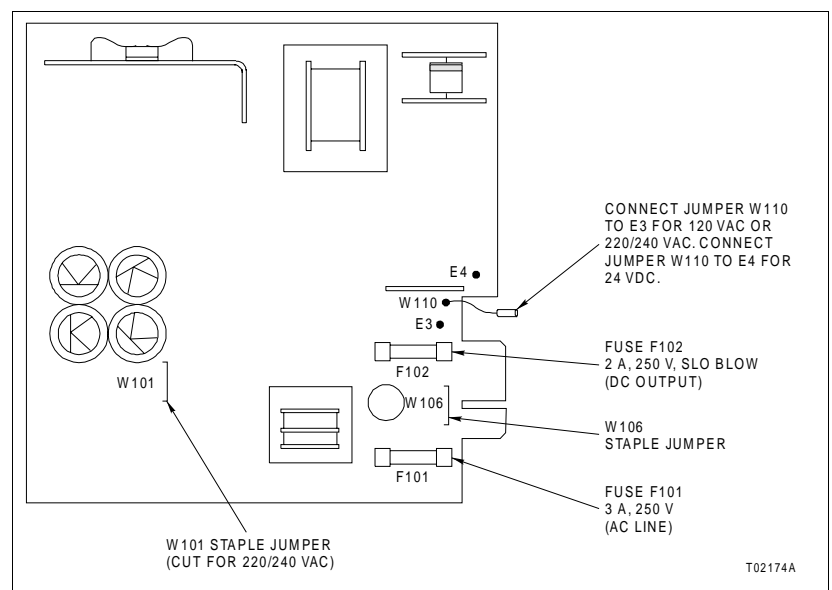
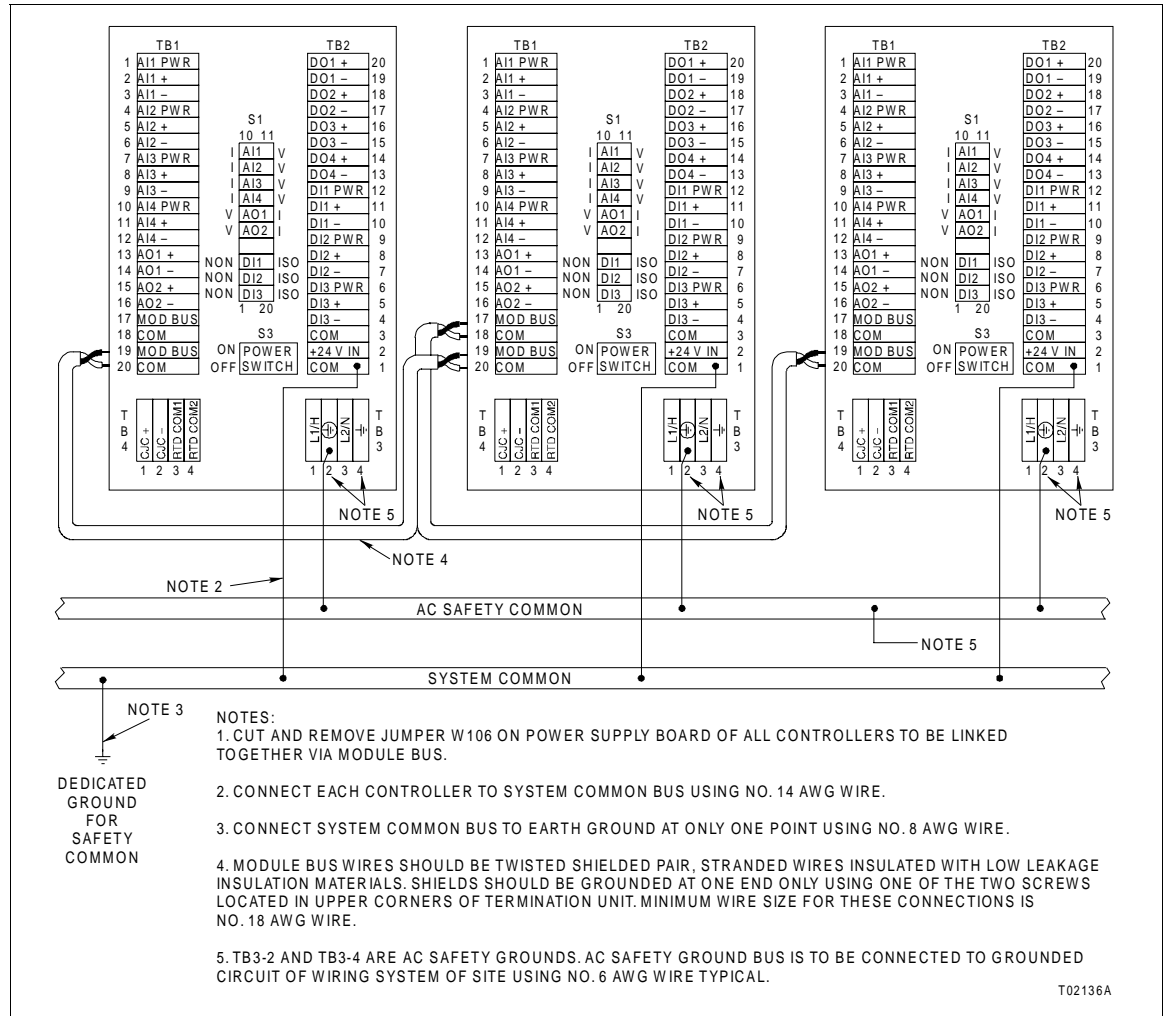

Figure 2-3. Power Supply Board
Figure 2-4. Recommended Single Point Grounding System
5. Connect the shield or ground wire to earth ground at TB3-4 (\perp) or TB3-2 (\oplus). Connect jumper W110 shown in Figure 2-3 to the E4 position.
The unit is factory set for 120 VAC (nominal). Jumper W110 should be connected to E3 (Fig. 2-3) for 120 VAC service. If 220 or 240 VAC is required, remove the power supply board and cut and remove jumper wire W101 (Fig. 2-3). It is recommended that the jumper wire be cut such that it is completely removed from the circuit.
Jumper W106 on the power supply board (Fig. 2-3) provides a connection for the DC system common to the earth ground. Jumper W106 can be cut and removed to isolate system common from earth ground.
Single Controllers Single point grounding of the Type SLC controller provides an analog and digital DC grounding system free of circulating currents. Jumper W106 on the power supply board (Fig. 2-3) connects the DC system common to the AC grounding conductor terminal TB3-2 (⊕). Jumper W106 can be cut and removed to isolate DC system common from AC ground.
Multiple Controllers If several Type SLC controllers are connected through the module bus communication link, then the system commons are also connected. For a single point grounding system, system common must be tied to earth ground only at one point. Cut and remove jumper W106 (Fig. 2-3) on the power supply board of all controllers that are to be linked together via the module bus. Use a separate 14 AWG jumper wire to connect the DC system common (TB2-1) of each controller to an isolated system common bus. From one point on the DC system common, use an eight AWG wire to connect to a dedicated earth ground (Fig. 2-4). This dedicated earth ground should connect to the same grounding point as the AC safety ground (typically the site grounding grid). There should be no more than one-ohm resistance between the DC system grounding conductor and the AC safety conductor.